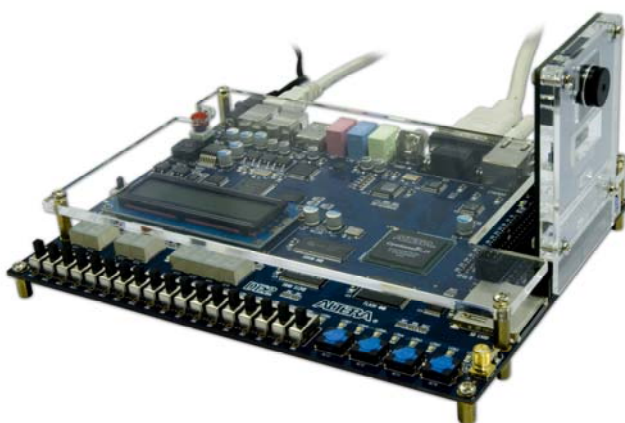

Figure 3.4. The Connection Setup for DE2 users
1. Ensure the connection is set correctly as shown in Figure 3.4. Make sure the D5M is connected to **JP2 (GPIO 1)** of the DE2 board.